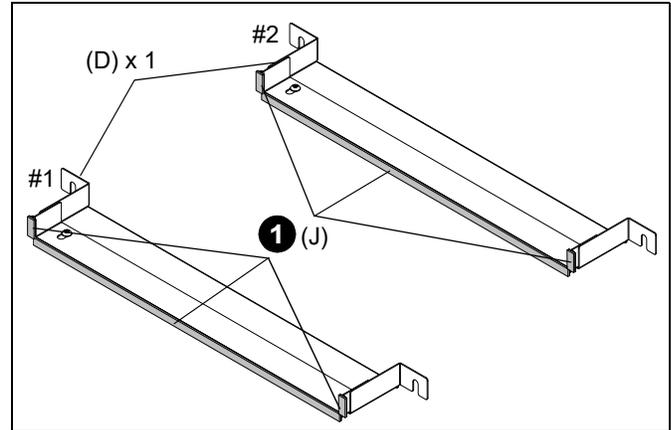

Figure 22
1. Apply foam tape (J) to the front face of two baffles (D). Make sure there are no gaps between the sections of the foam. (See Figure 22)